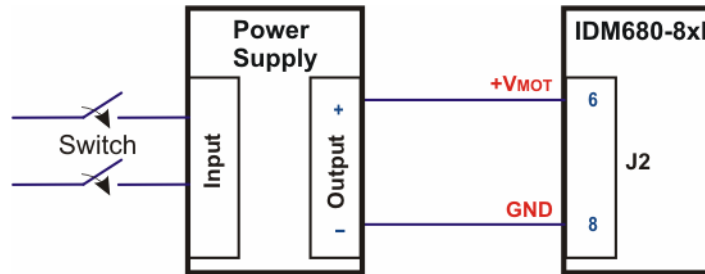

Figure 3.17. J2 – Motor supply connection – Recommended in-rush current limitation
- a) If motor supply V_{MOT} is switched on abruptly, the in-rush (start-up) current can reach very high values that can damage the drive. In order to limit the in-rush current, it is preferable to use the inherent soft-start provided by the power supplies when are turned on. Therefore, it is recommended to locate the switch for the motor supply at the INPUT of the power supply (see Figure 3.17) and NOT at the output i.e. between the supply and drive.